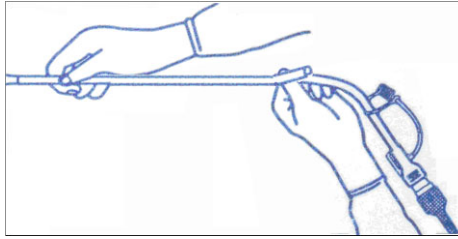

Figure 7-3 Separate the introducer
- 8) Slide the introducer out of the vagina along the catheter. When the introducer is completely out of the vagina, slide thumb between catheter and introducer tab, which will begin to separate the introducer from the catheter. (See figure 7-3)